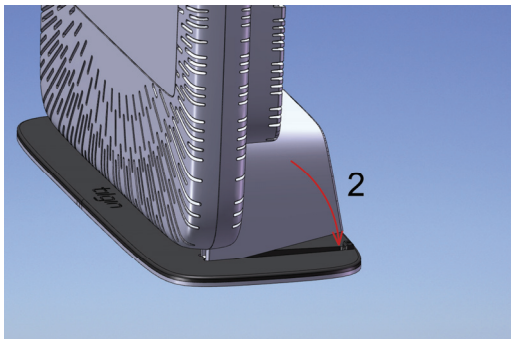

Fig. 2
5. Snap the home gateway in the slots Fig 2